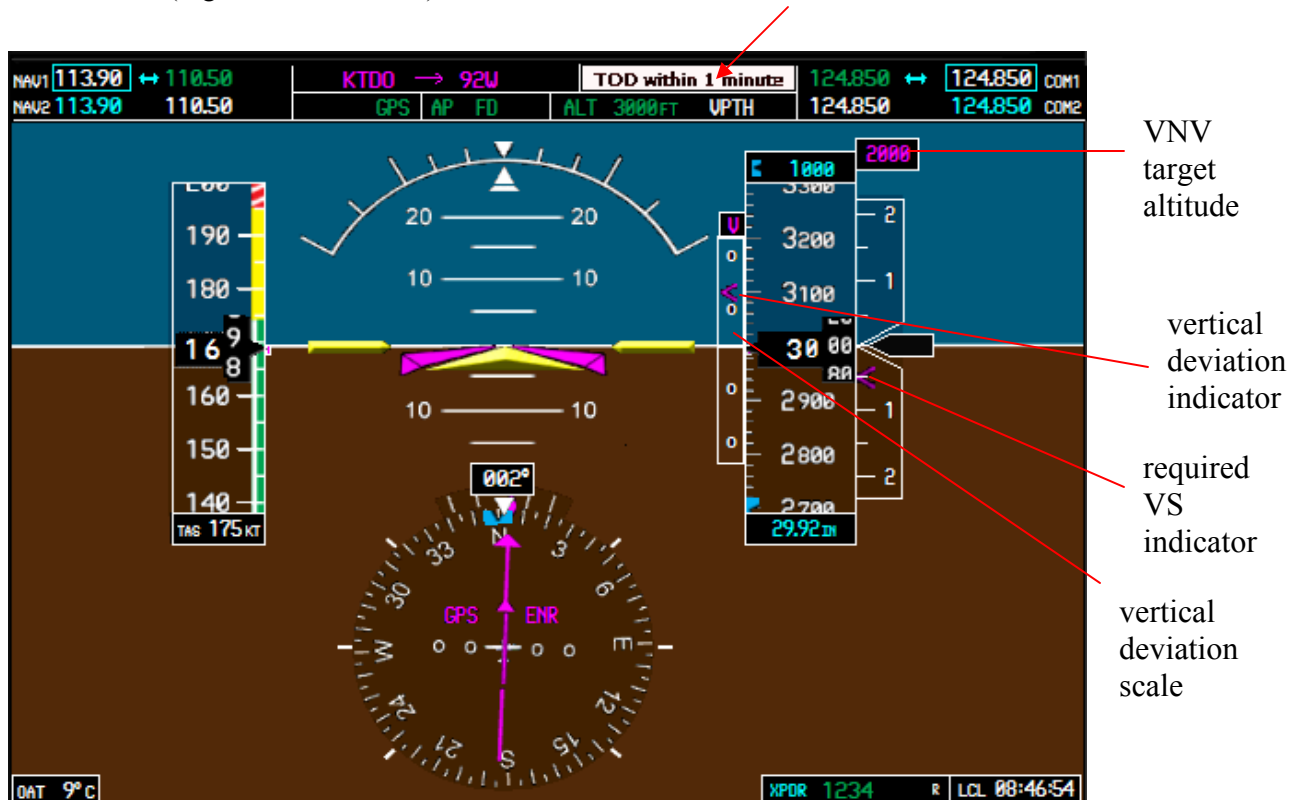

Figure 9.7
6. when the VNV mode is active and the time to the TOD reaches 1 minute, the DIS/BRG box in the PFD most upper bar will turn light gray and a 'TOD within 1 minute' prompt will be displayed for 30 seconds (Figure 9.7, red arrow).
7. at 1 minute to TOD, the following information is displayed on the PFD until the BOD is reached (Figure 9.7).